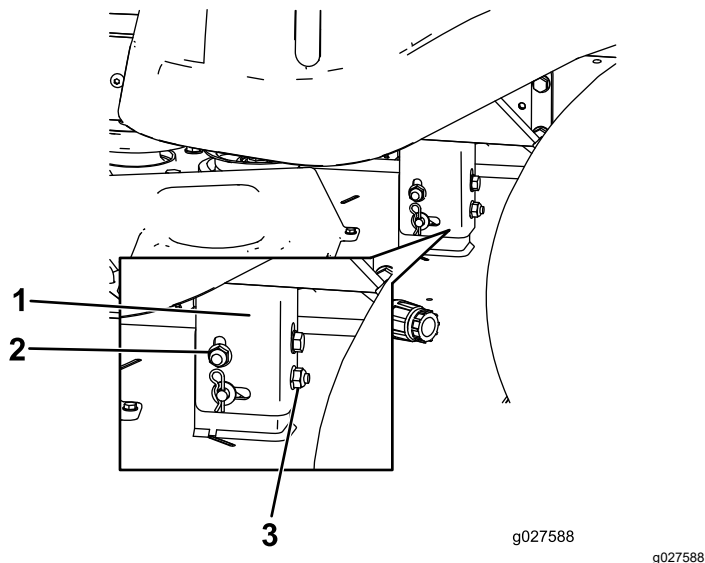

Figure 59
8. Raise or lower the left side of the mower deck by rotating the rear locking nut (Figure 59).
Note: Rotate the rear locking nut clockwise to raise the mower deck; rotate the rear locking nut counter-clockwise to lower the mower deck (Figure 59).